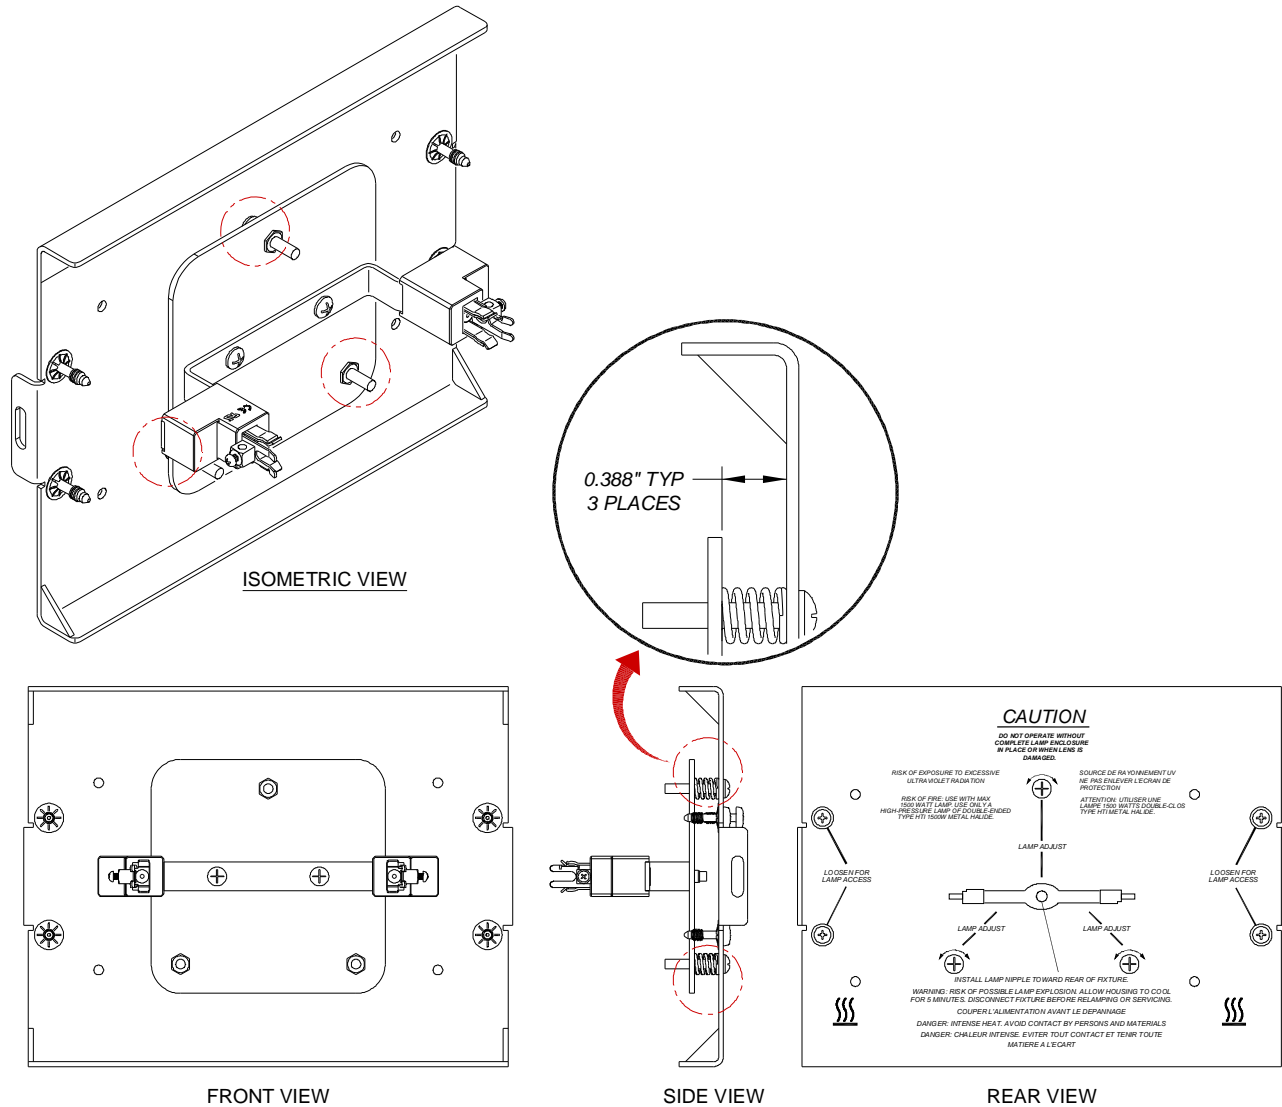

Figure 4-4: Measuring Lamp Alignment Position
- Then use a telescoping gauge tool to measure the distance at three places. These should all be 0.388" as shown in **Figure 4-4**. Adjust the lamp plate as necessary using the three lamp adjustment screws.